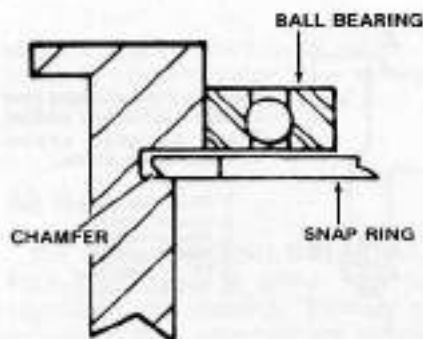
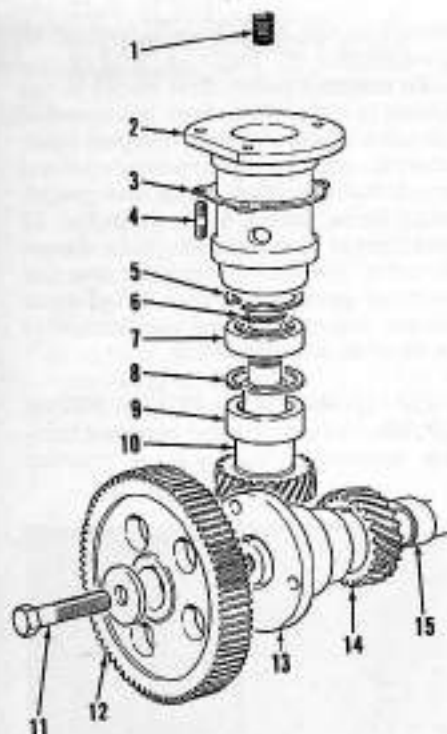
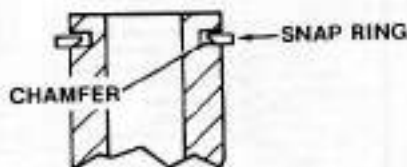

Fig. 84—View showing proper installation of snap ring retaining bearing in housing. Refer to paragraph 159.
Fig. 83—Exploded view showing three cylinder diesel fuel injection pump drive assembly and related parts.
Fig. 85—View showing proper installation of snap ring retaining drive gear in housing. Refer to paragraph 159.
To reinstall pump, first install thrust spring (1—Fig. 83) in bore in top end of oil pump shaft and insert splined (quill) shaft in drive gear with chamfered end up. Install injection pump and gasket, align timing marks as shown in Fig. 82 and tighten pump retaining nuts. Reconnect fuel lines leaving injector line connections loose at injectors. Install throttle and stop controls and bleed system as outlined in paragraph 154.
To remove drive gear from housing remove snap ring (6—Fig. 83) from top end of gear (10) and press gear downward out of housing. Remove caged needle roller bearing (9) and snap ring (8) retaining lower bearing. Press bearing (7) out of housing (2).
To reassemble, install bearing (7—Fig. 83) first, then install snap ring (8) with chamfered edge downward. See Fig. 84. Press new needle roller bearing (9—Fig. 83) into position.
Install drive gear (10—Fig. 83) into housing assembly and install snap ring (6) with chamfered edge downward. See Fig. 85.